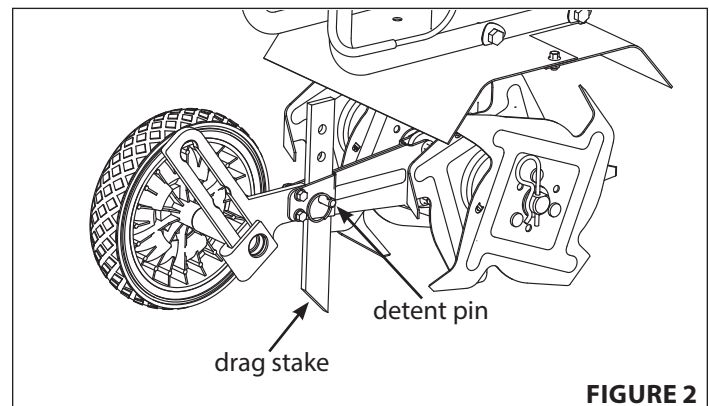

FIGURE 2
4. The drag stake is shipped with point facing upwards. Before using, remove detent pin and turn the drag stake around so the point is directed in the downward position facing towards the tines. Re-insert detent pin. **SEE FIGURE 2.**